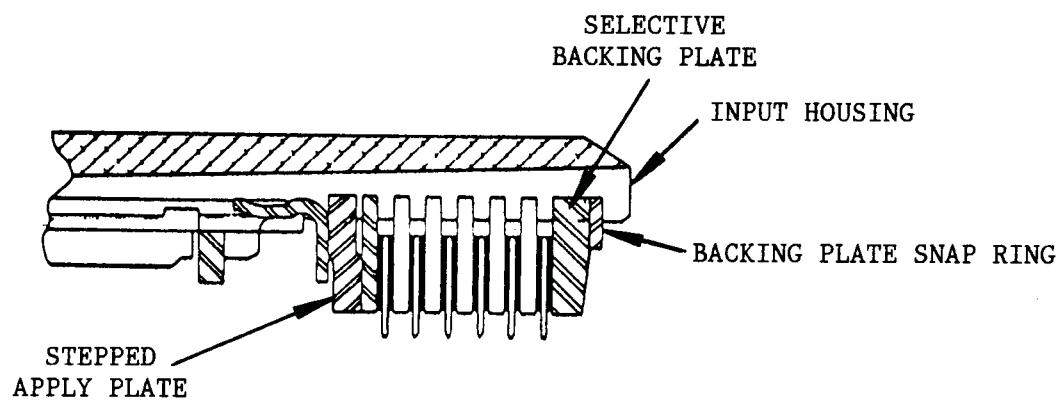

Figure 111
3. THERE ARE 5 AND 6 PLATE 3-4 CLUTCH ASSEMBLIES, AS SHOWN IN FIGURE 111. TWO STEEL PLATES ARE STACKED TOGETHER ON SOME MODELS, IN TWO PLACES, TO PROVIDE THE SAME STACK-UP AS A SIX PLATE CLUTCH PACK (SEE FIGURE 111).
4. Install the 3-4 clutch plates, both lined and steel, using Figure 111 as a guide, depending on model.